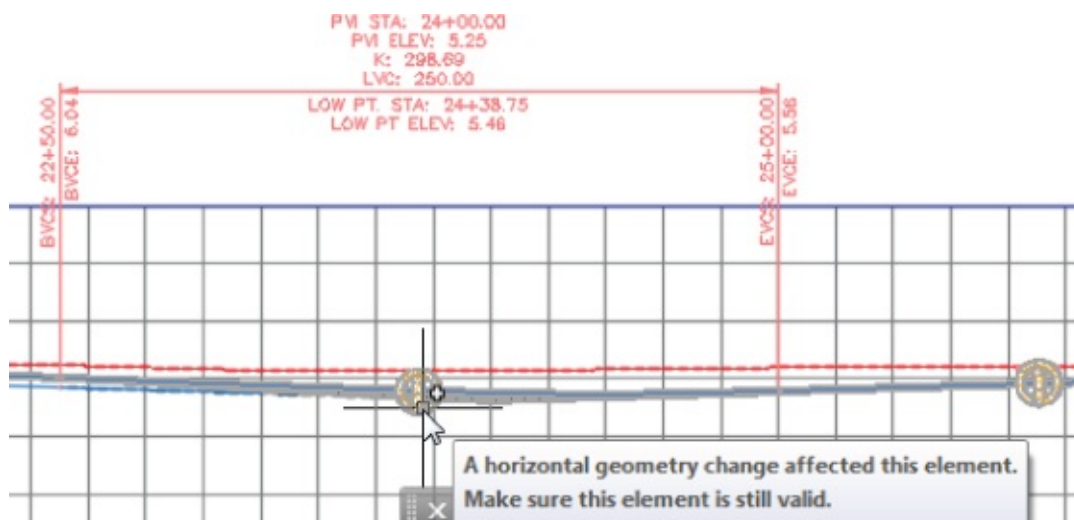

Figure 7.36 On alignment change, warning signs are displayed for the items affected by the change.
- Upon editing the alignment, you will notice that in the profile view, for the entities affected by this change, warning signs are displayed, as shown in Figure 7.36. These warning signs let you know that changes have been applied to the entities of the profile in order to maintain the sync of start and end stations with the alignment.